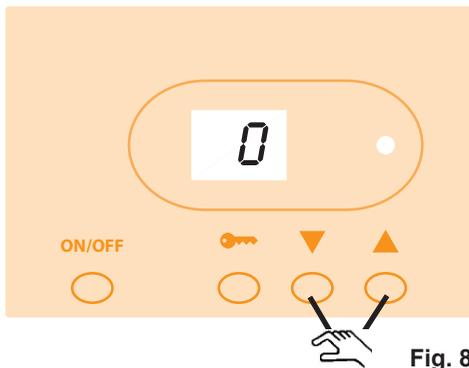

Fig. 8
- While one person keeps the [up] and [down] buttons at the timer control panel simultaneously pressed (see fig. 8), the other person shall connect the radiator to the power supply.